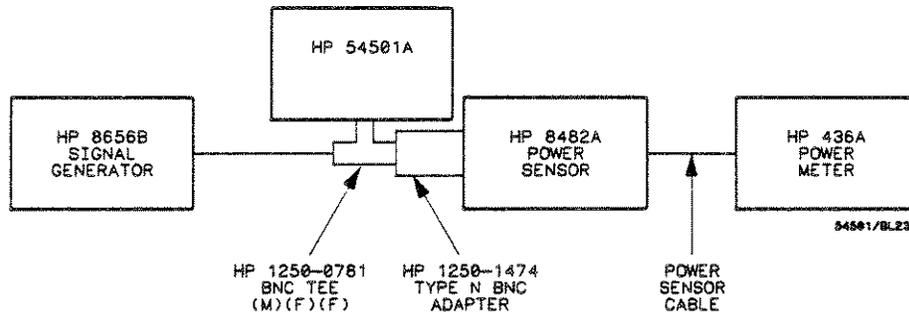

Figure 3-1. Bandwidth Performance Test Setup
1. Connect equipment as in figure 3-1.